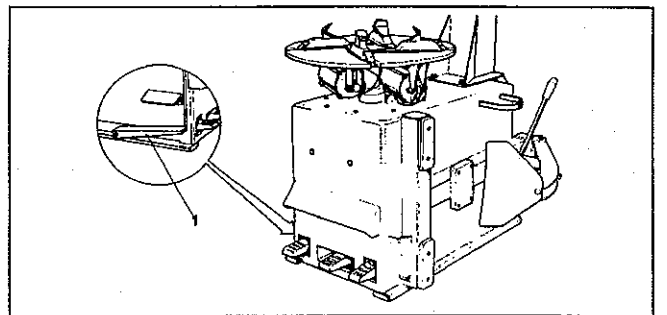

Fig.13
F. Press bead-seater pedal on left side of the machine (#1 Fig.13) half way down: air will come out from inflation hose end.